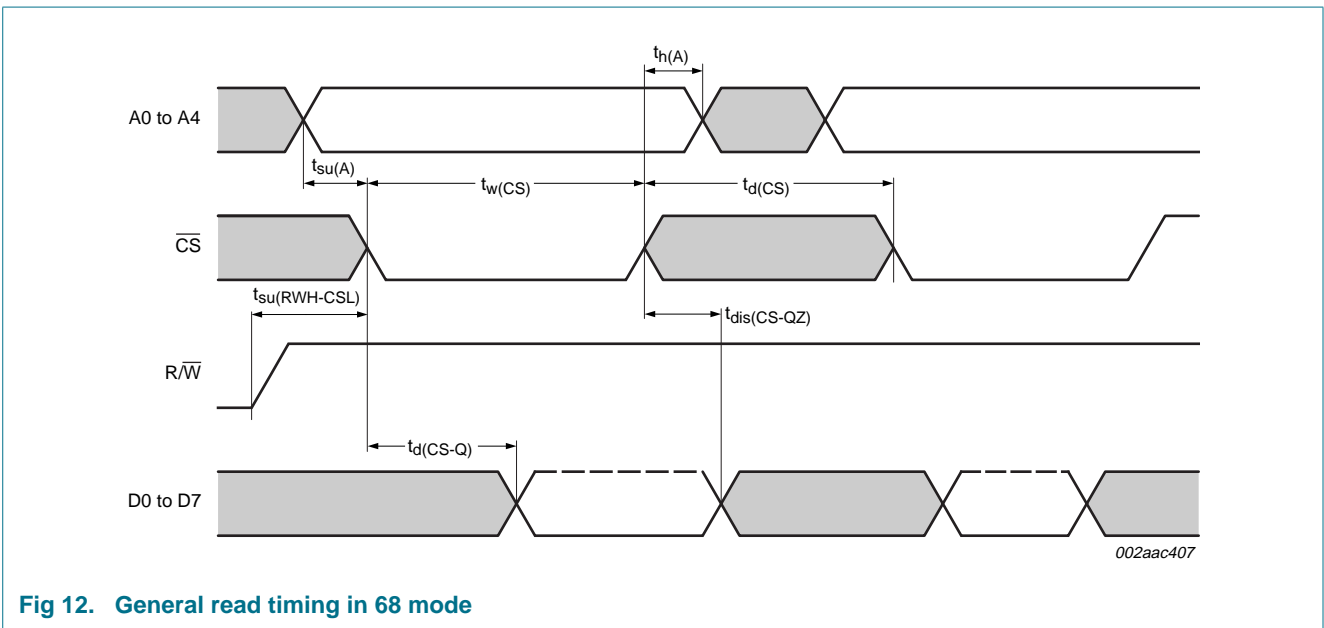

Fig 12. General read timing in 68 mode
- (2)  $\overline{CS}$  timing during a read cycle. See Figure 12.